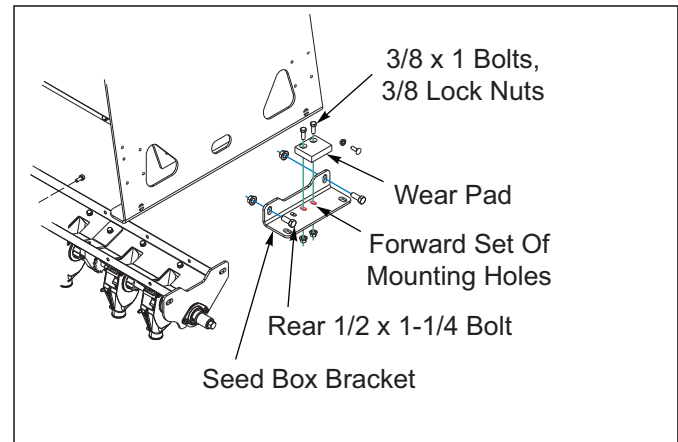

Figure 3-2: Removal of Rear Screw from Existing Seed Box Bracket
8. Just in front of the small seed bearing assembly, remove the rear 1/2-13 x 1-1/4 hex head cap screw from the existing seed box bracket See Figure 3-2.